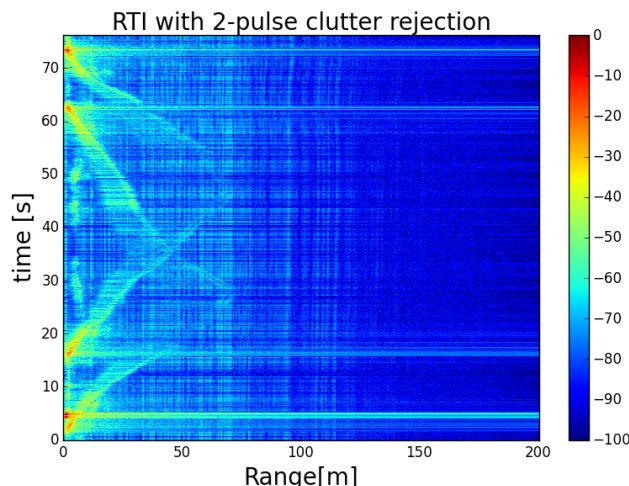

Figure 8: Range-Time-Intensity (RTI) plot of the measurement data in “running_outside_20ms.wav”.
5. A Python script “range_wav.py” is available at this link (https://github.com/ucdart/UCD-EEEC134/blob/master/labs/lab6/code/range_wav.py) to process the recorded .wav file. An example .wav file named “running_outside_20ms.wav” can be analyzed for you to get an idea of the expected outcome. Fig. 8 shows the range-time-intensity (RTI) plot of the data in “running_outside_20ms.wav”. You can see two objects (people) walking away from and back to the radar.